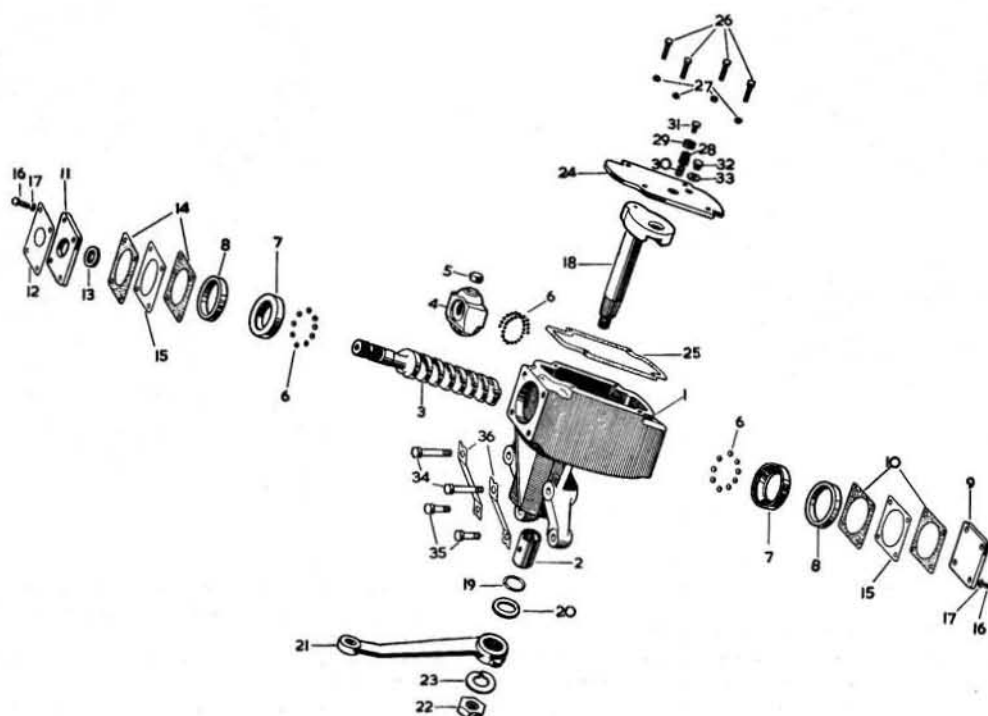

FIG.11.23. THE STANDARD STEERING BOX
2 Refer to the exploded view of the steering box at Fig.11.23.
2 Remove the bolt (31 in Fig.11.23) and the spring underneath it and unscrew the rocker shaft adjustment screw (28 in Fig.11.23) until it is fully clear of the rocker shaft.
3 Unscrew the spring tension bolt (item 31 in Fig.11.23) and take out the spring.
4 Slacken the locknut (item 29 in Fig.11.23) and screw down on the adjuster screw by hand until it contacts the rocker shaft.